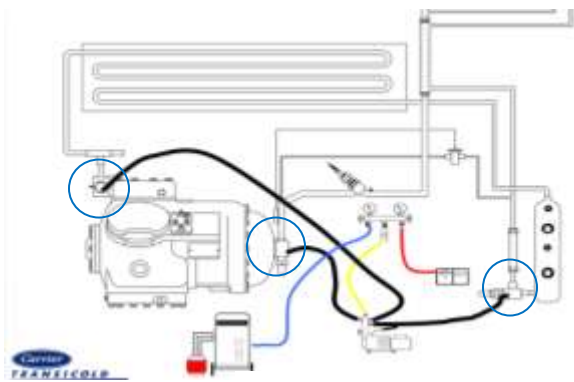

Figure 1
To ensure a proper and fast evacuation of the system; use large diameter, short evacuation hoses for all connections during evacuation. Evacuation hoses are designed especially for this purpose and are available from refrigeration suppliers. The standard manifold gauge set is not recommended for evacuation, as the internal body porting is too small for good flow at low pressures. A large manifold gauge set made for evacuation can be used or a vacuum manifold can be attached directly to the vacuum pump as shown in Figure 1.
A vacuum gauge thermistor is connected to the manifold gauge set. The compound gauge on the manifold gauge set will be used to monitor system pressure, not vacuum. The pump is attached as shown in Figure 1.
3. Connect the vacuum hoses, vacuum pump, and vacuum gauge and refrigerant recovery unit to the refrigeration unit as shown in Figure 1.